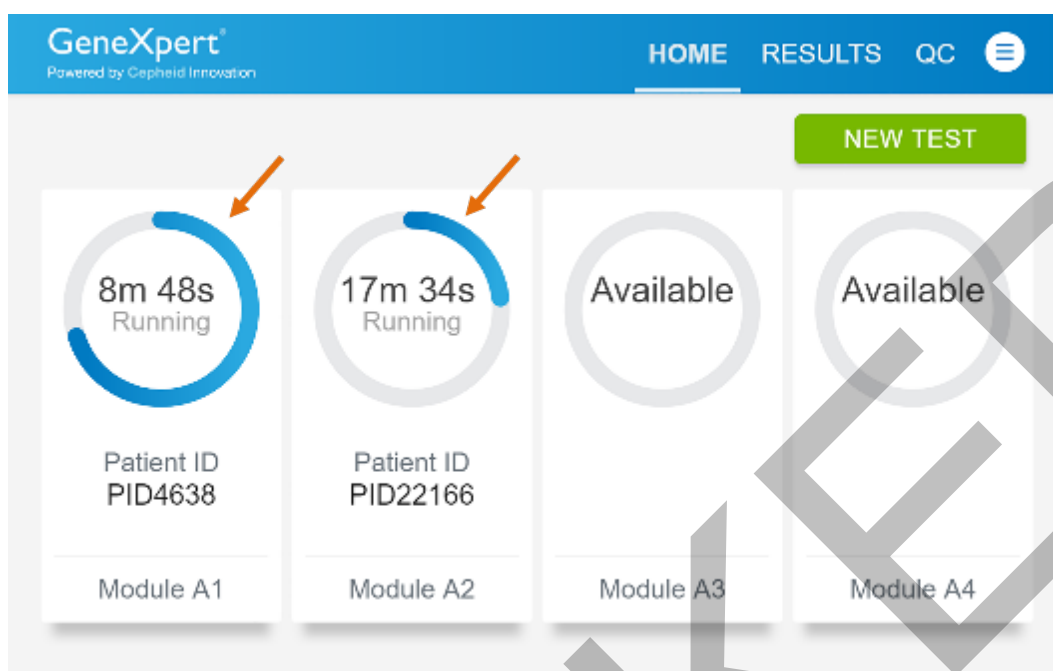

Figure 29. Home Screen showing Two Tests Running
4. After a second test has started, touch the **HOME** button. The status of both tests appears. The Home screen displays the module(s) in use with a circular graphic indicator around each test, and Patient Identification below the module graphic (see Figure 29).